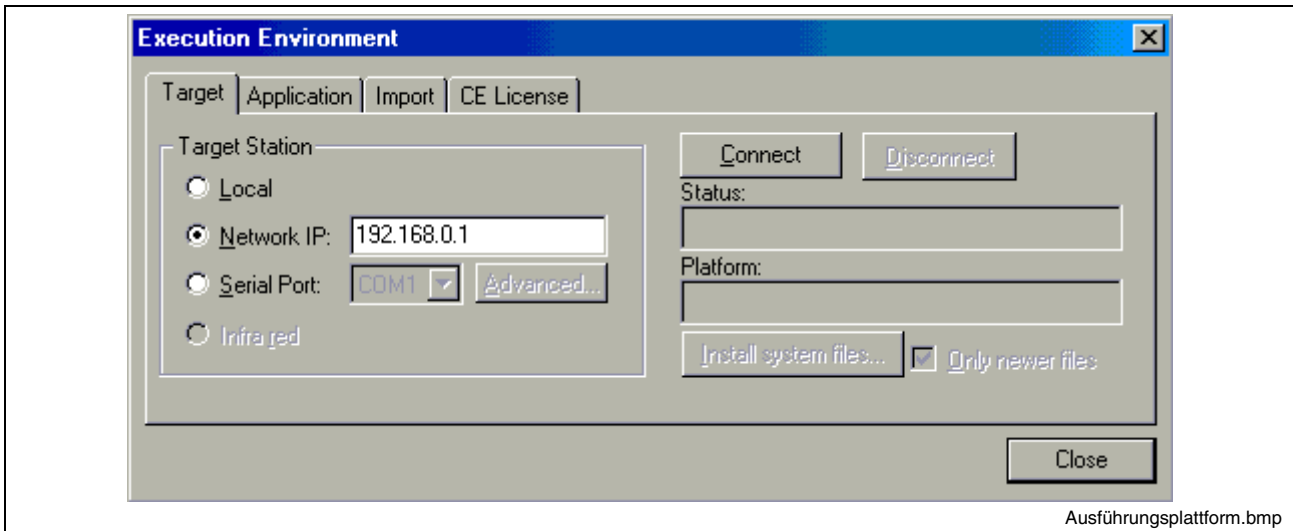

Fig. 3-2: Execution Environment dialog box
- If the Execution Environment dialog appears (see Fig. 3-2), select the connection type (**Network IP** or **Serial Port**), choose the corresponding parameters or enter the TCP/IP address of your CE device.